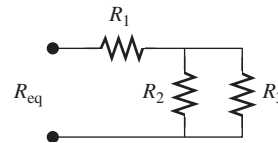

FIGURE P3.4 Circuit for Problem 3.4.
3.4 (B) Find R_{eq} in terms of R_1, R_2, R_3 in Figure P3.4.